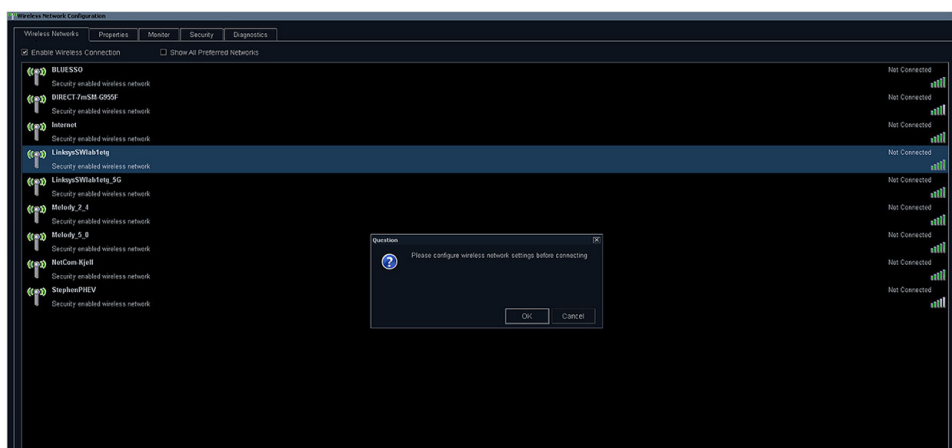

Figure 3-35 First Time Connection Dialog
- 6.) Either double-click or select the network you want to connect to, and press the **Connect** button. If this is the first time you attempt to connect to the network, a dialog will pop up on screen asking you to configure the network setting - See Figure 3-35.